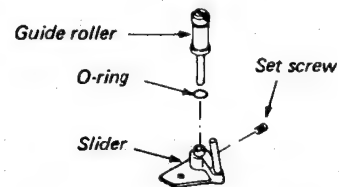

Fig. 1-3-22 Guide roller replacement
1. Loosen the set screw shown in Fig. 1-3-22.